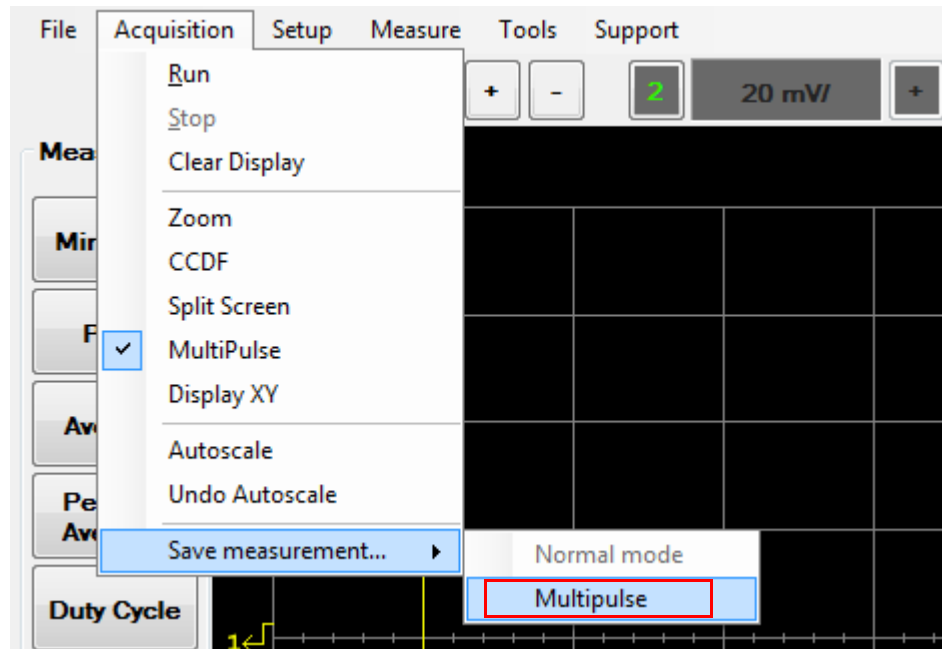

Figure 2-97 Save measurement... > MultiPulse selection in the Acquisition menu
- 1 Select **Acquisition > Save measurement > Multipulse** on the toolbar to save the multipulse measurement data as a *.csv file as shown in Figure 2-97.